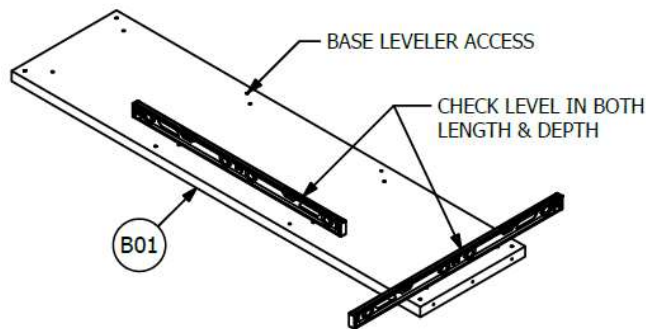

FIG. 02:
1. Position Base Shroud (B01) as close as possible to the Credenza's final position and level. See Figure 02.